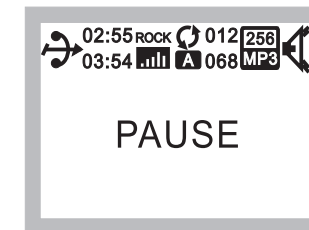

Fig. 7
(B) Press Parameter knob ⑬ to pause track, Fig. 7: